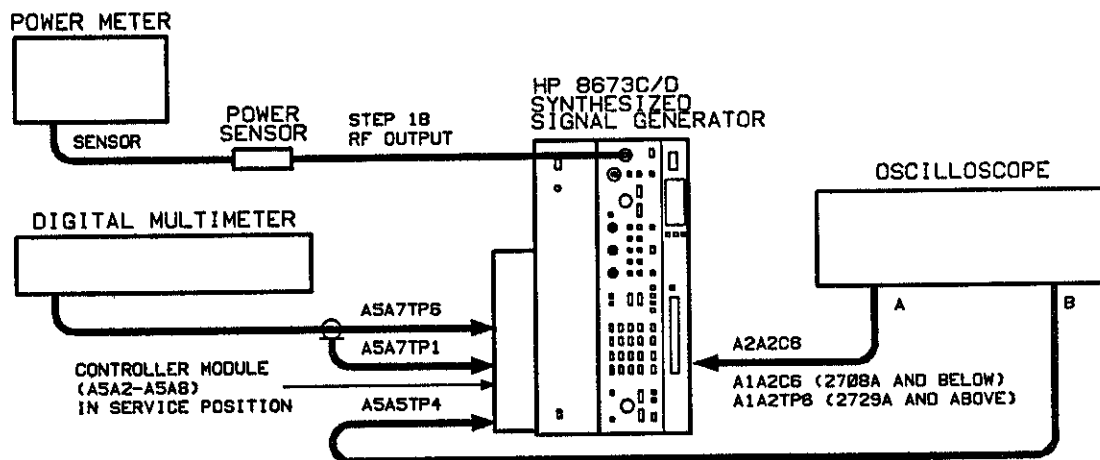

Figure 5-26. YTF Adjustment Test Setup
1. Connect equipment as shown in figure 5-26. Remove top and bottom covers of the Signal Generator and put the Card Cage and A5A9 assembly in the service position. (Refer to chapter 8, disassembly procedures.)
8. Connect oscilloscope to Signal Generator as shown in figure 5-26. Channel 1 is connected to A1A2C6 (*2708A and below*) or A1A2TP6d (*2729A and above*). Connect Channel 2 to A5A5TP4.